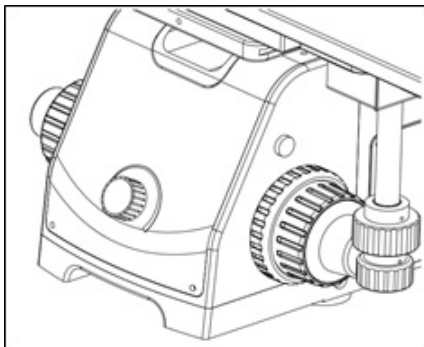

Fig. 16
5.2. Adjusting Brightness and Switching Between Upper and Lower Illumination (Fig. 16)
The knob ① in Fig. 16 is the brightness adjustment knob. When rotating counterclockwise, the light intensity decreases. The upper and lower lights switch button ② is used to switch between the upper and lower lights (lower illumination is only available on Reflected/Transmitted models).